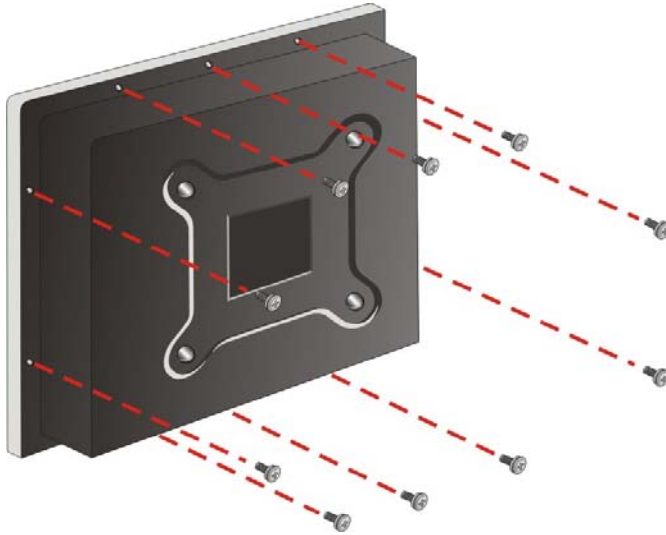

Figure 3-1: Rear Panel Retention Screws
Step 1: Remove the rear panel by removing the 10 retention screws from the rear panel (Figure 3-1).